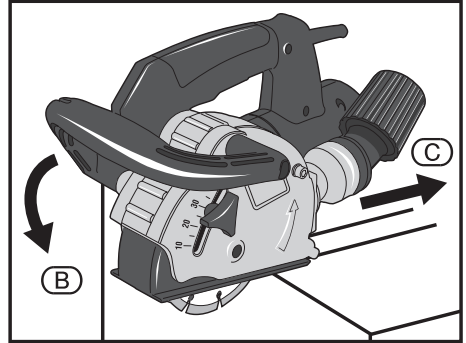

FIG.10
### 9.4 GENERAL CUTTING - FIG.10
- Place the machine against the wall with the guide roller (10) against the wall.
- Switch on the machine and then slowly cut into the wall until the depth stop (7) rests against the wall.
- Now you can cut the groove in the wall. Take care with the cutting direction, Fig.10, as you do so. The machine must always be handled on a counter rotating basis otherwise there is a risk that it may be forced out of the cut in an uncontrolled manner.
The machine must always be used cutting in the direction of the rotation arrow (C) as shown in Fig.10. Never move the machine in any other direction, otherwise there is a danger of it being pushed uncontrolled out of the cut, or it will damage the blades.